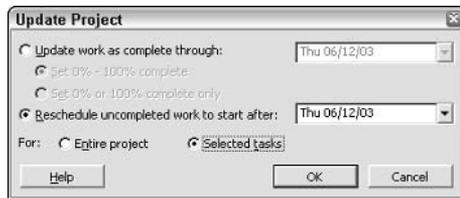

Figure 12-18: Use this dialog box to reschedule incomplete work to start today.
3. Choose Tools ⇨ Tracking ⇨ Update Project to open the Update Project dialog box, as shown in Figure 12-18.